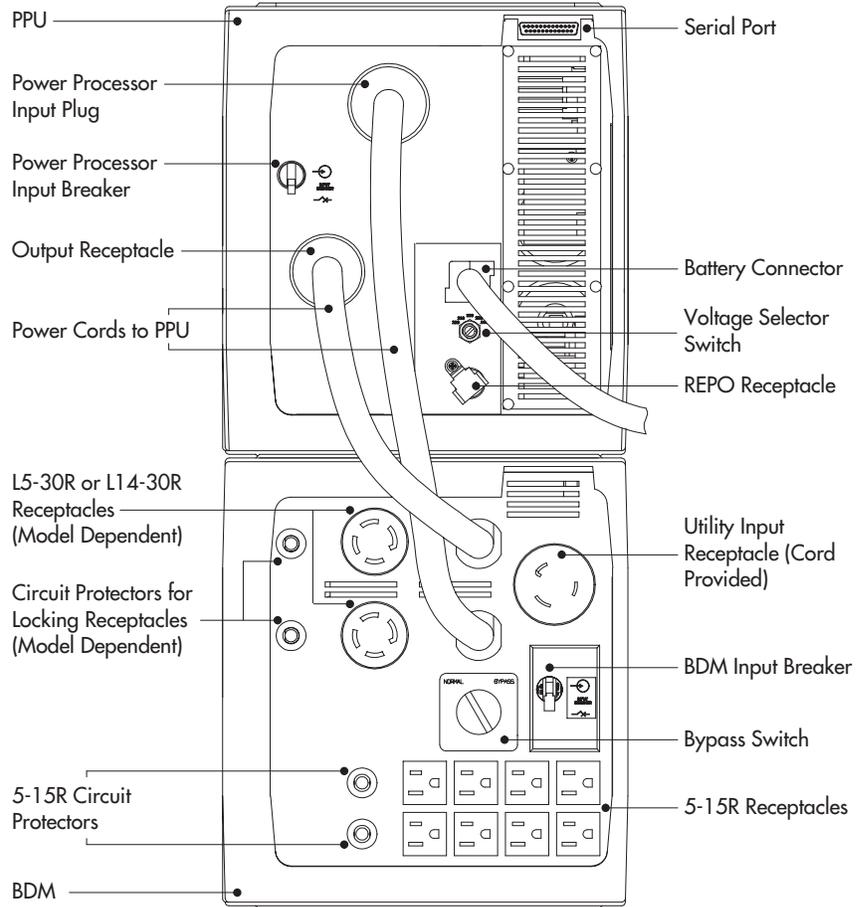

Figure 18. UPS with BDM Rear Panel Connections
- 1** Turn the Bypass switch on the BDM to the BYPASS position (see Figure 18). The BDM is now powering your equipment from utility power.
- 3** Switch the PPU input breaker to the OFF (O) position.
- 4** Plug the input and output cords of the BDM into the power connectors on the PPU as shown in Figure 18 on page 41.